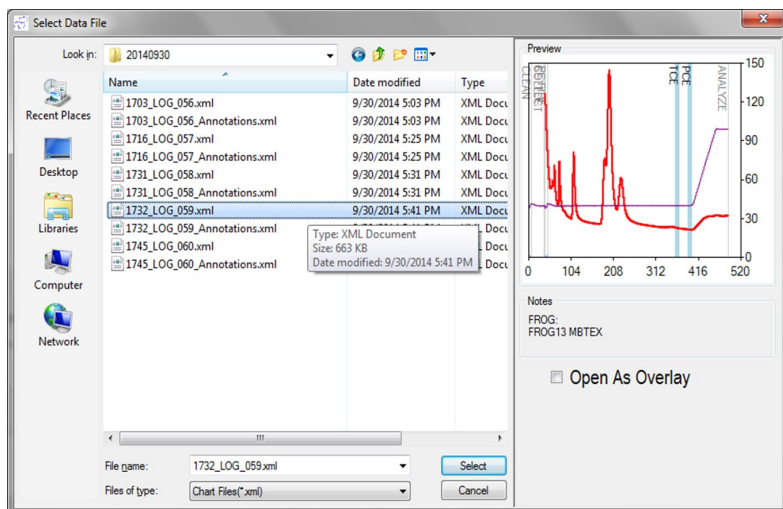

Figure 4.7-4: File Selection Screen
18. A preview chromatogram of the selected file appears to the right of the file list (Figure 4.7-4).